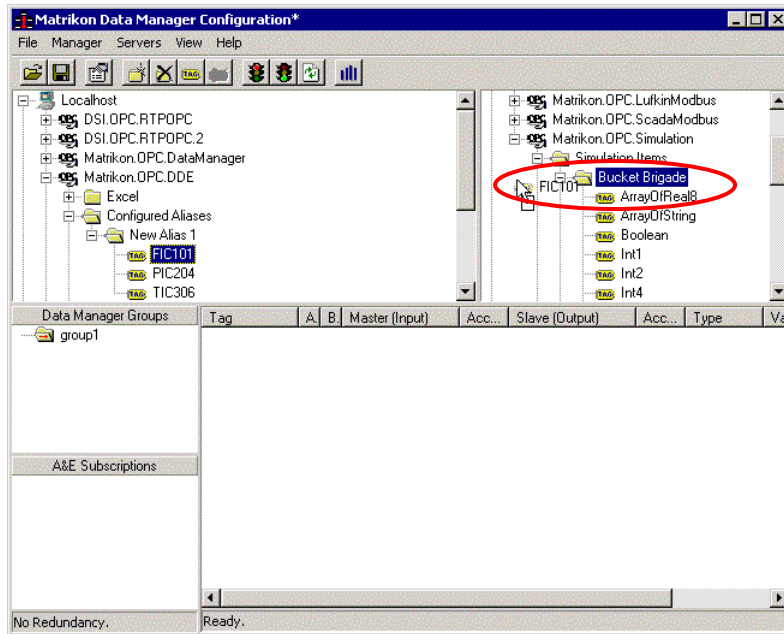

Figure 5-8. Drag the tag to the Bucket Brigade folder.
4. Drag the first tag, **FIC101**, and drop it in the **Bucket Brigade** folder (Figure 5-8).
7. In the **Output OPC Server** area, type the name of a tag that allows read and write (e.g., Bucket Brigade.Int1) in the **OPC Item** box, or click  to browse the tags (Figure 5-8).